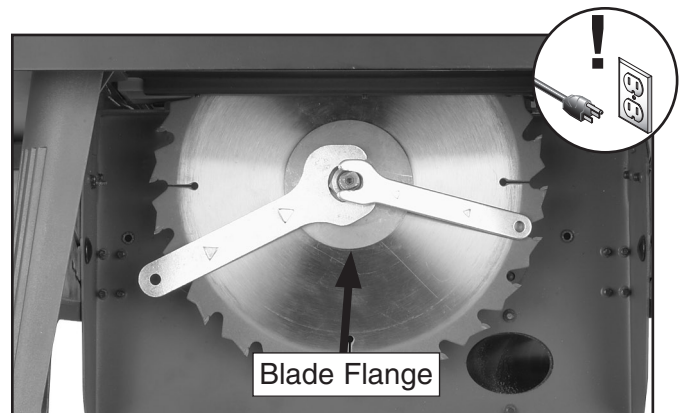

Figure 18. Wrench positions to remove arbor hex nut.
3. Hold the blade arbor with the small arbor wrench, then use the large arbor wrench to remove the arbor hex nut, as shown in **Figure 18**.